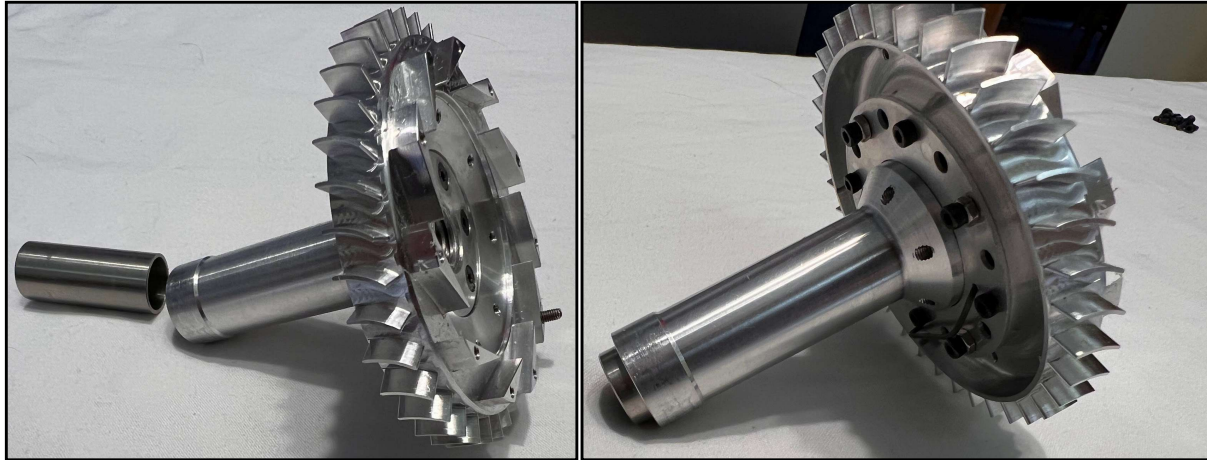

Figure 8: Completed diffuser assembly (right) prior to compressor integration. Tube (left) slides into shaft on aft end of assembly.
3.1 Slide the shaft on the diffuser assembly through the combustion chamber. Make sure the fuel, lubricant, and start gas lines line up with the appropriate through-holes. The through-holes are slightly larger than the similar looking bolt holes as seen in Figure 8.